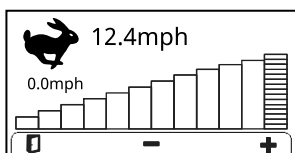

Figure 28
- **Traction-speed adjustment screen (Figure 28):** Press the  button to access this screen and adjust the maximum speed while the cutting unit is in the OPERATING position (indicated by the  icon) or while the cutting unit is in the TRANSPORT position (indicated by the  icon).